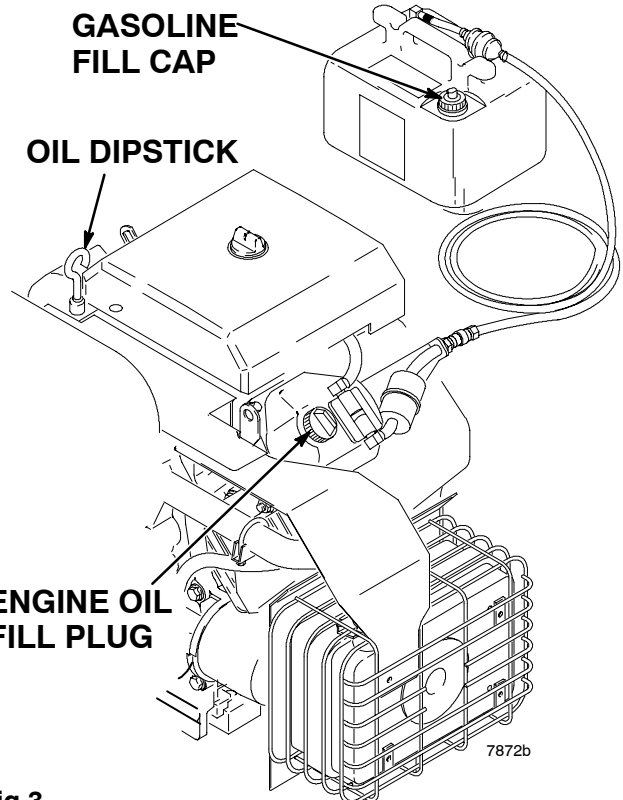

Fig 3
- a. Remove the dipstick. See Fig 3.
- Close the fuel shutoff valve. See Fig 3.
- Remove the gasoline fill cap and fill the tank. Be sure the air vent in the fill cap is not plugged so gasoline can flow to the carburetor, then replace the cap. See Fig 3.